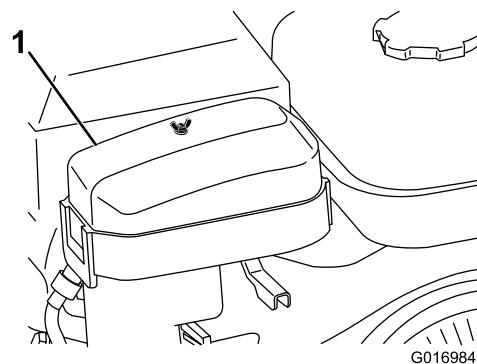

Figure 31
2. Remove the wing nut that secures the air-cleaner cover, and remove the cover (Figure 31).